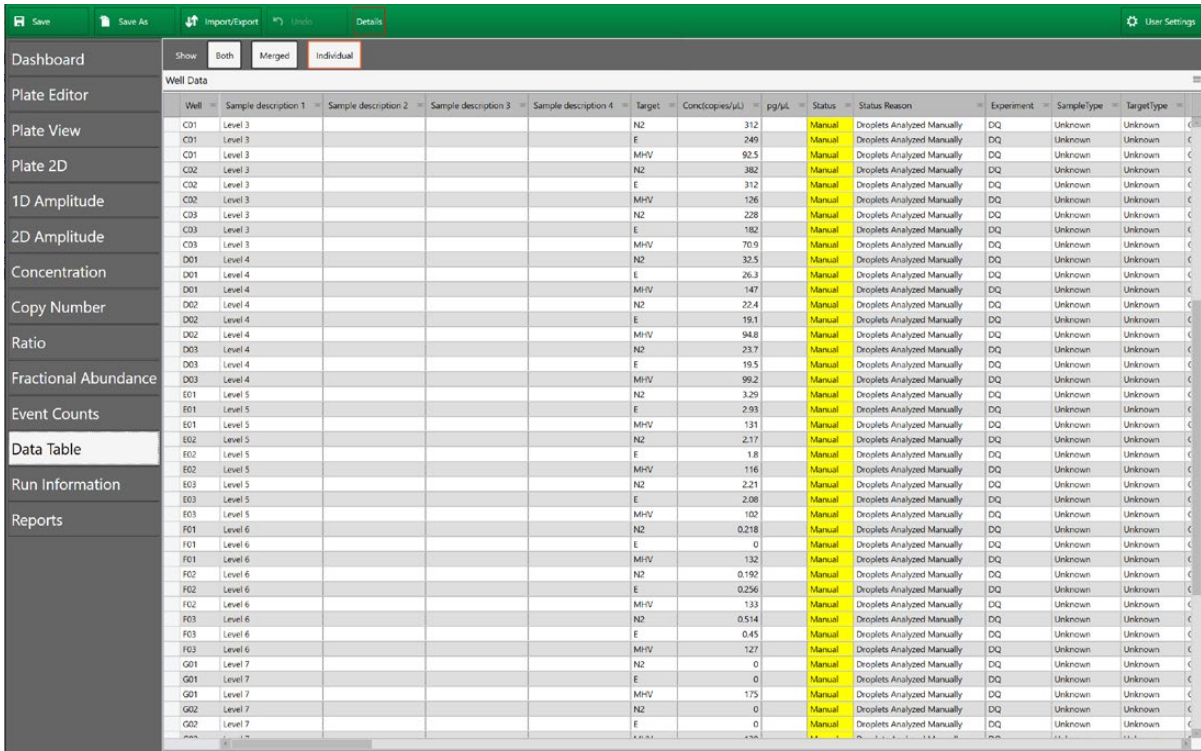

Fig. 21. Options in Data Table tab.
- The data can then be exported by selecting all wells, then selecting the **Data Table** tab and clicking any of the four horizontal bars toward the top left corner of the window (Figure 21). Then options of Export to Excel... or Export to CSV... are made available.